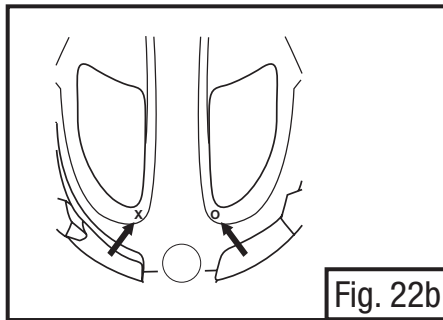

Fig. 22b
-  **Note:** On the M-100 Series Headgear only, the “X” and “O” markings on the inside of the headgear shell used to assist with installing the faceshield head inserts can also be used as an indicator for earmuff attachment. Match the marking on the earmuff mount with the corresponding marking on the M-100 shell (i.e. match “X” to “X”). See Fig. 22b. There are no “X” and “O” markings on the inside of the M-300 Series Headgear.